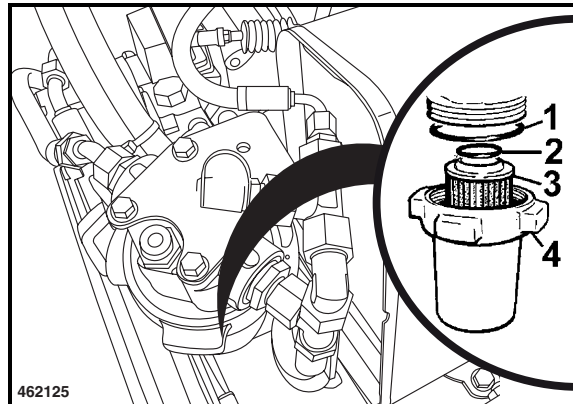

Fig. 159
- Remove filter bowl (4) (Fig. 159) with filter element (3).
- Reassemble the filter bowl with a new filter element and new loop rings (1) and (2).